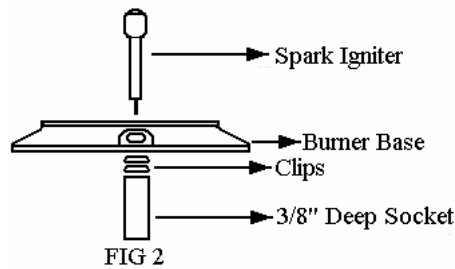

FIG 2
7. Align the new igniter (M) with the burner base, clips (L) and a 3/8" deep socket (Z). (Fig 2).
- Align the new igniter (M) with the burner base, clips (L) and a 3/8" deep socket (Z). (Fig 2)